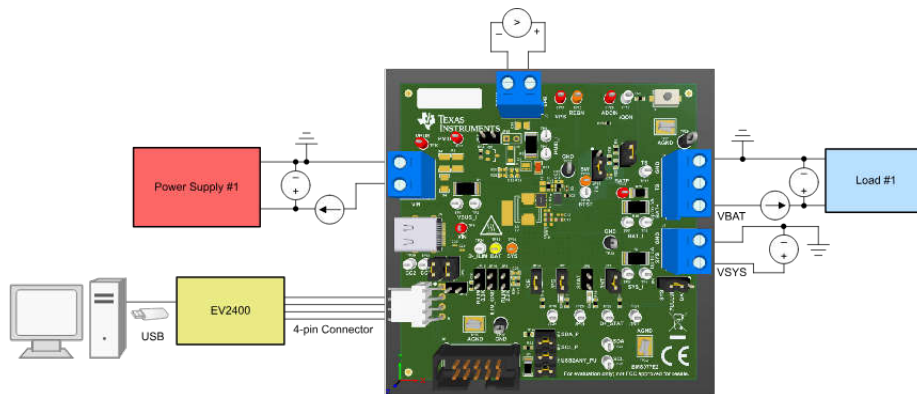

Figure 2-1. Test Setup for BQ25630 EVM
5. Turn on Load #1, set to constant voltage mode, and output to 2.5V. Disable Load. Connect Load in series with a current meter (multimeter), ground side, to J4 (BAT and PGND) as shown in Figure 2-1 if not using a source meter with current measuring capabilities.
6. Connect a voltage meter across TP13 (BAT) and TP27 (PGND), or across J4-3 and J4-1 as in Figure 2-1.
7. Connect a voltage meter across TP14 (SYS) and TP27 (PGND), or across J2-1 and J2-2 as in Figure 2-1.
8. Connect a voltage meter across TP12 (PMID) and TP29 (PGND), or across J3-1 and J3-2 as in Figure 2-1.
9. Connect the EV2400 USB interface board to the computer with a USB cable and from I2C port to J5 with the 4-pin cable as in Figure 2-1.
10. Install shunts as shown in Table 2-2. Note that the shunts in Figure 2-1 are not necessarily installed per the table.